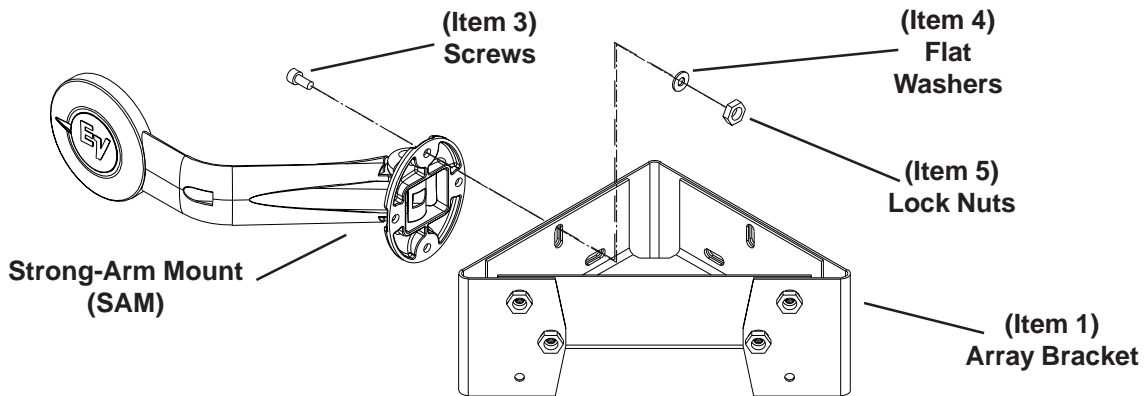

Figure 5
Assemble Strong Arm Mounts to the Array Bracket (Item 1) using 4 Screws (Item 3), 4 Flat Washers (Item 4) and 4 Lock Nuts (Item 5) on each Strong Arm Mount as shown in Figure 5. Three of the four bolts on each Strong Arm Mount will be used to attach the 180° Array Adapter (3).